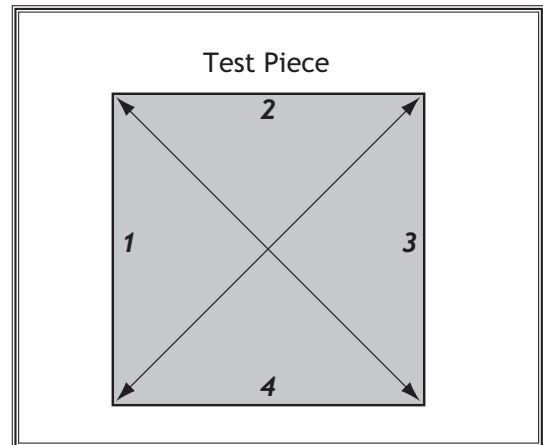

Figure 102. Fence adjustment test piece.
4. Measure the test piece diagonally from corner-to-corner as shown in **Figure 102**.